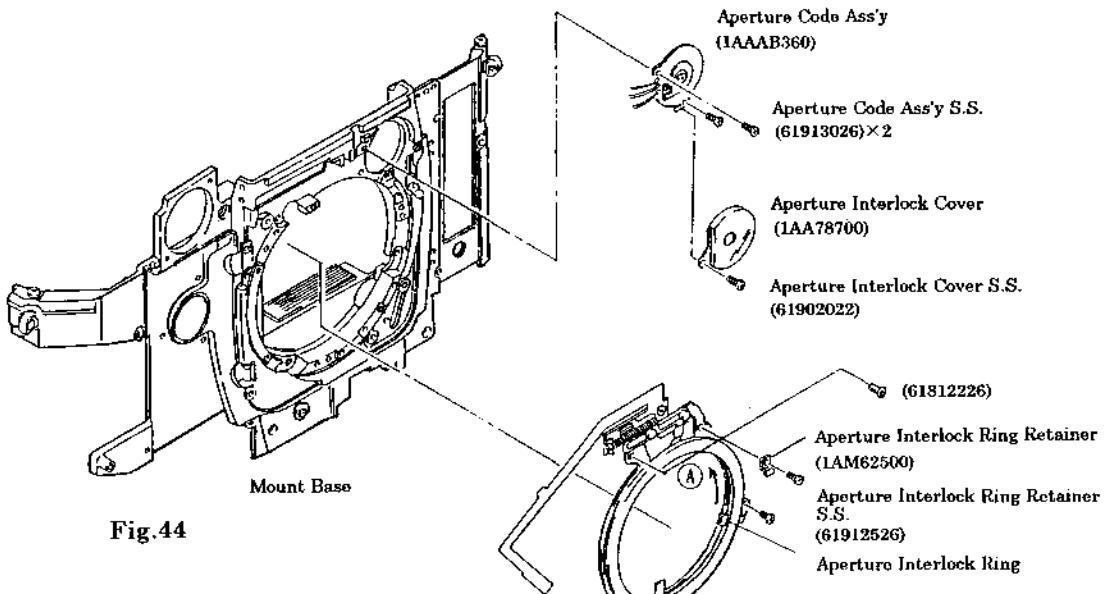

Fig.44
- 3) Move the Aperture Interlock Ring of the F. Ring Base Plate Ass'y in the direction of the arrow Ⓐ(in the direction of aperture opening) and keep it there. (See Fig. 44)